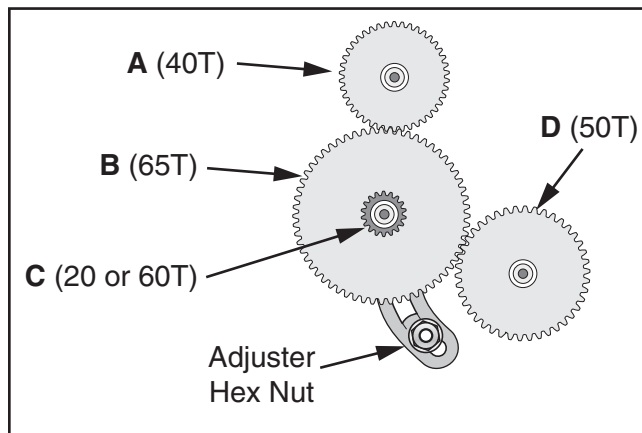

Figure 63. End gear placement.
11. Slide 40T, 65T, and 50T gears onto gear shafts (see **Figure 63**), making sure to re-install key with 50T gear.